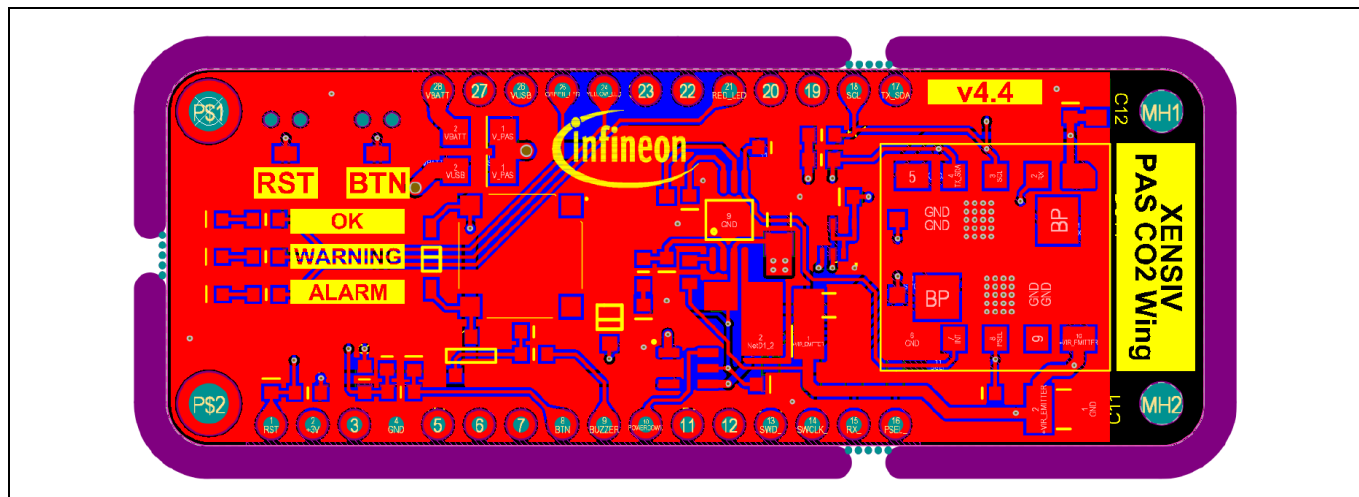

Figure 28 PCB layout of XENSIV™ PASCO2V15 Wing board
The size of the XENSIV™ PASCO2V15 Wing board is 43 mm (L) x 23 mm (W), as shown in Figure 28.